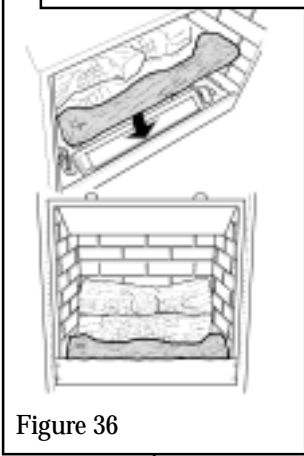

Figure 36
3. Place the front log behind the metal lip at front of the firebox. See figure 36.